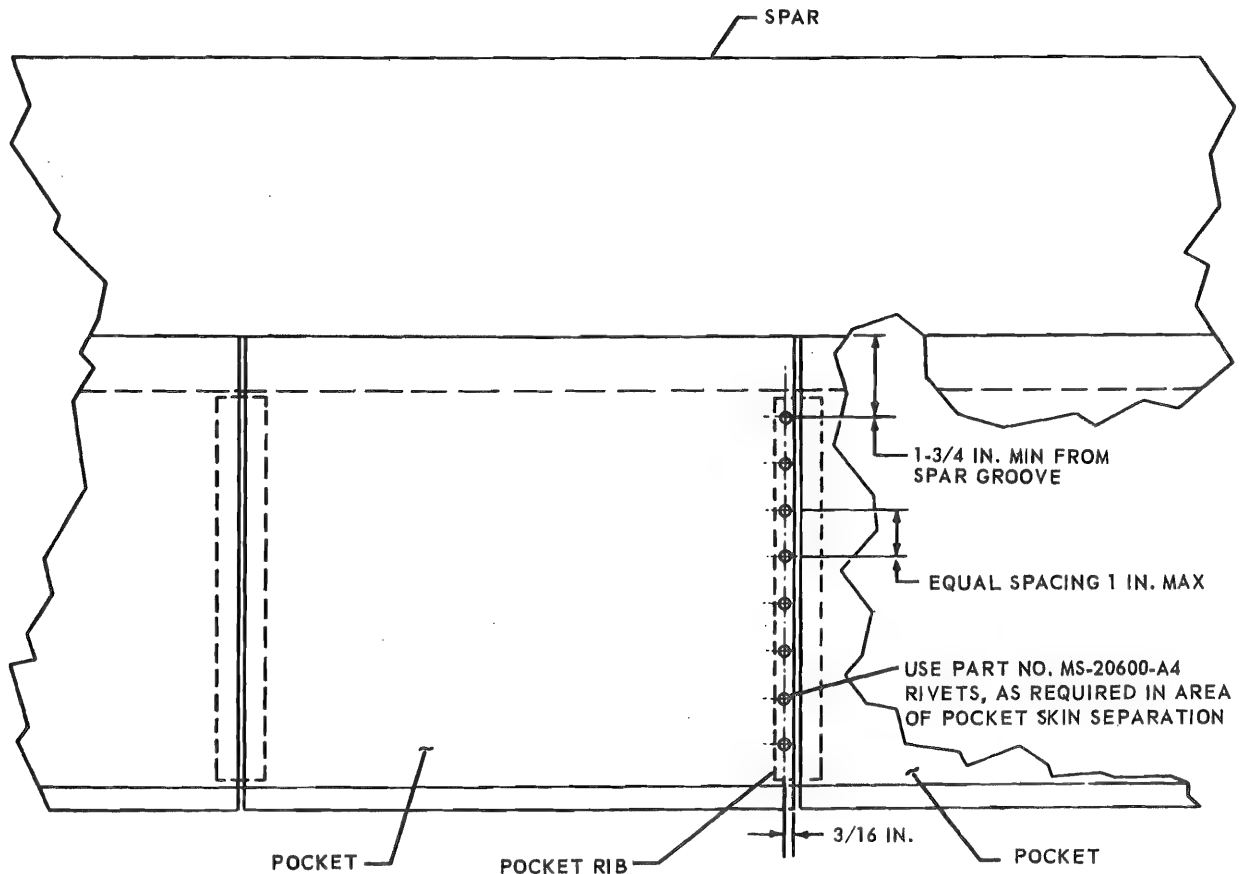

Figure 2-6. Repair of Pocket Skin Separation from Pocket Rib
e. Separation of the pocket skin from the rib just aft of the spar may be repaired by riveting as shown in figure 2-6. The separation may occur from quick starts or high edgewise loading.